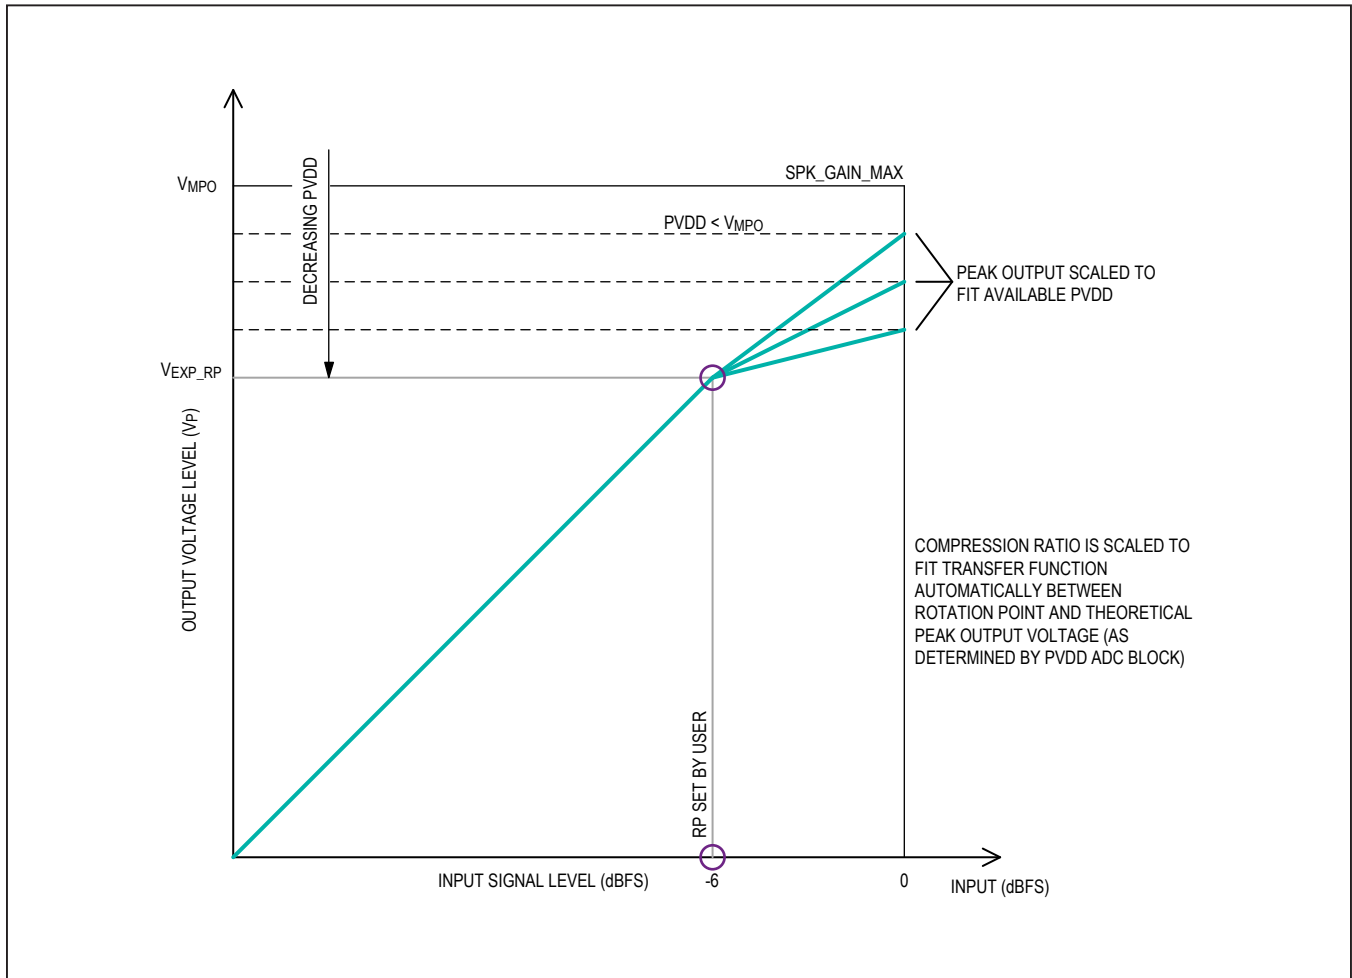
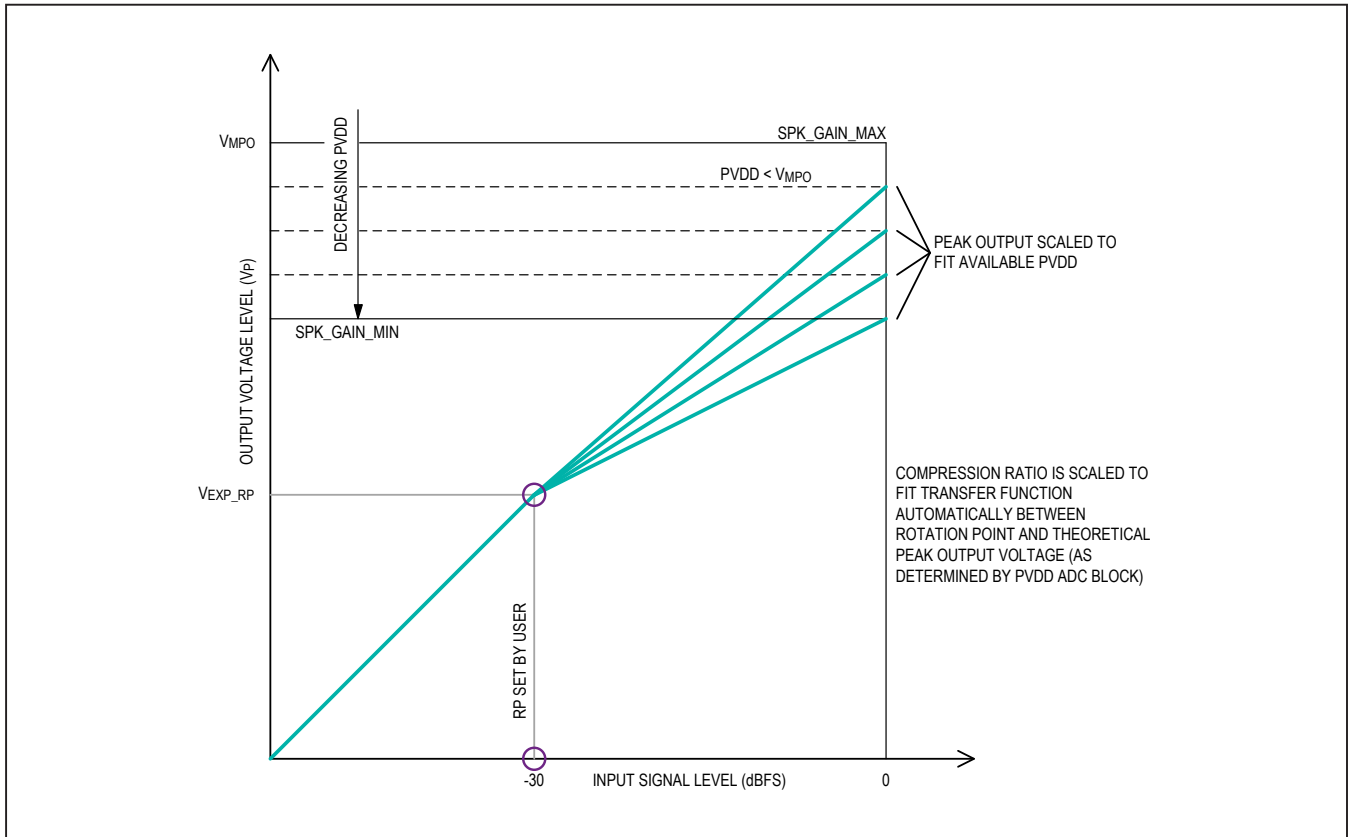
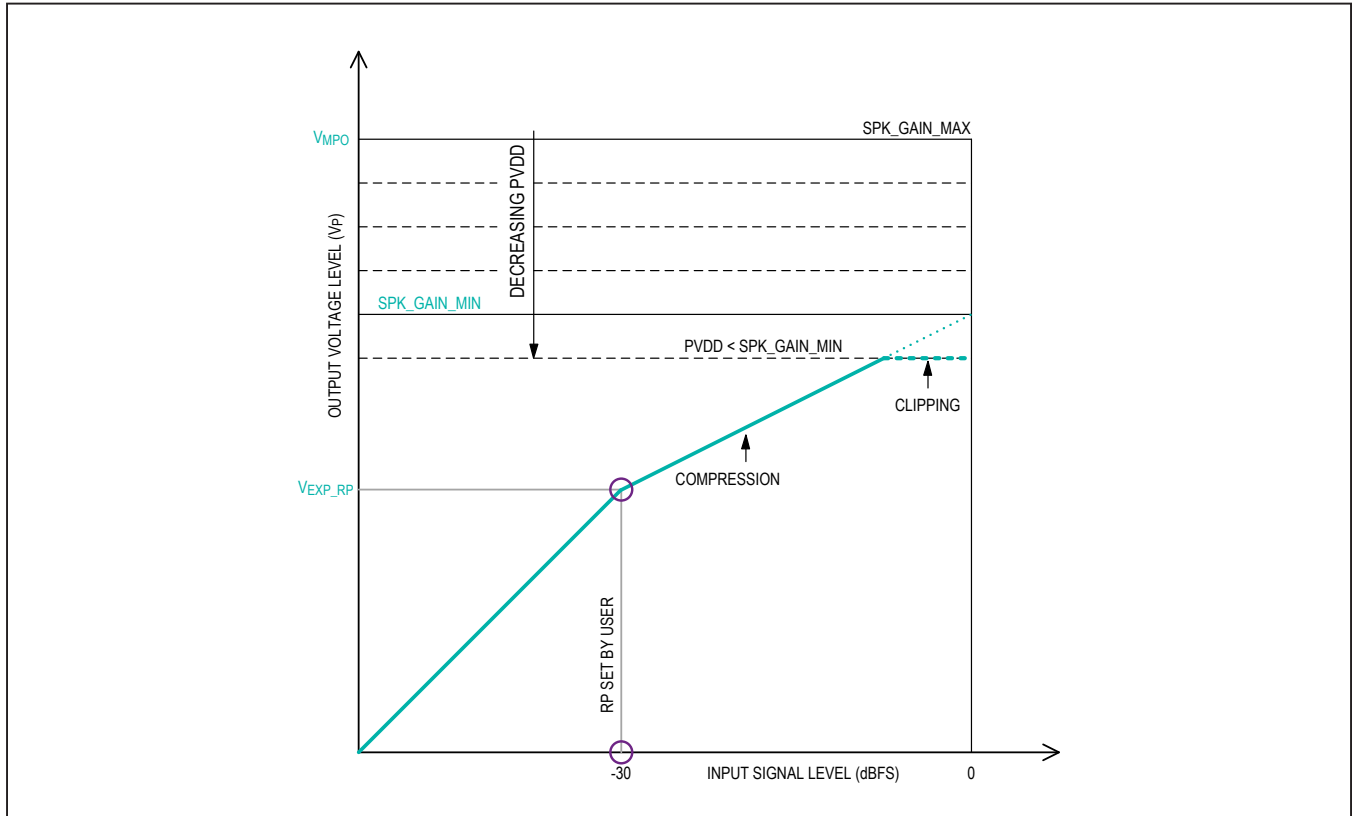
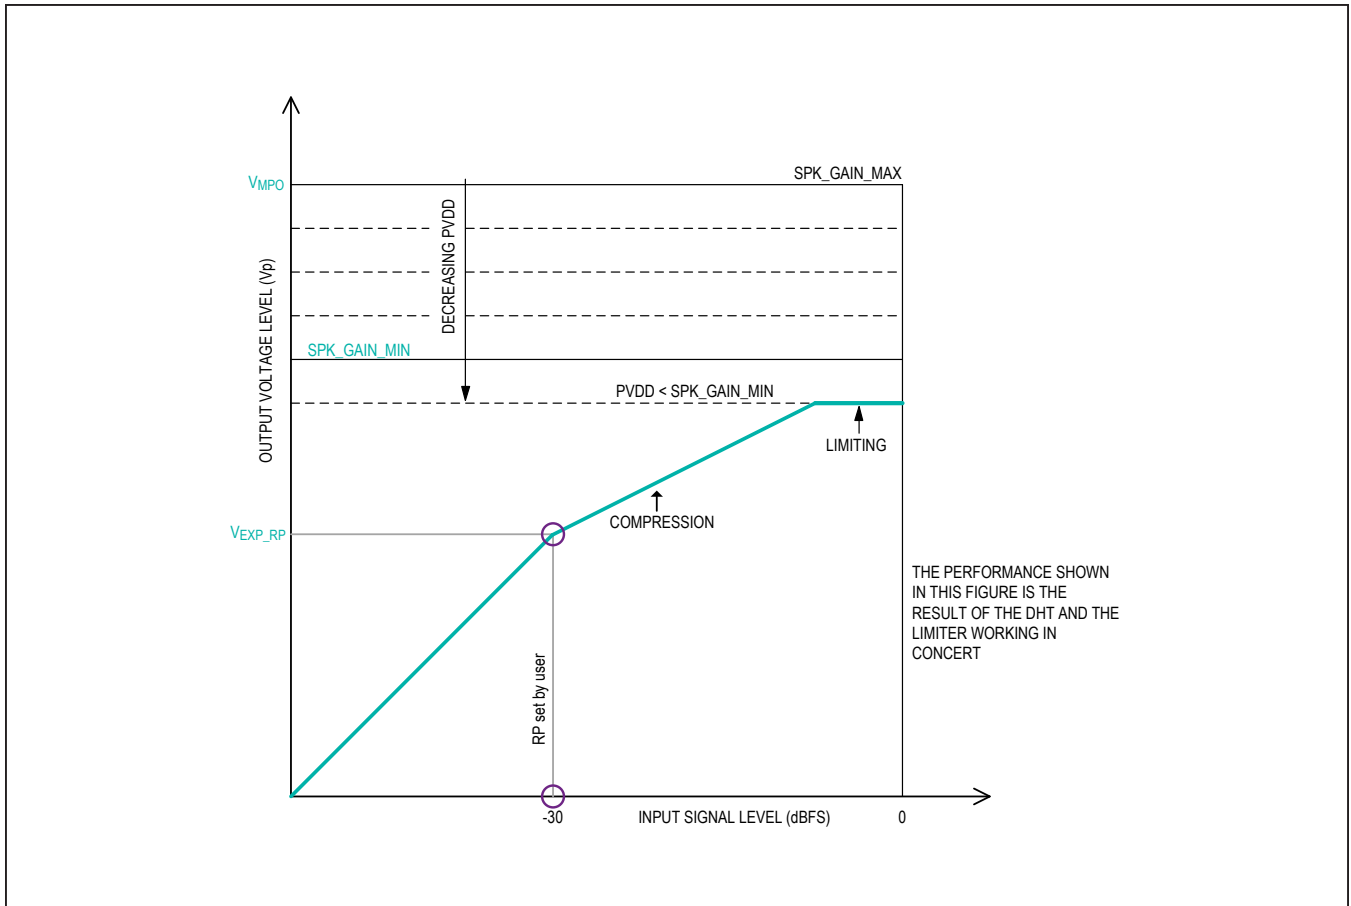

Figure 9. Example of Dynamic Headroom Tracking in Mode 2 Operation with a High RP
Figure 10. Example of Dynamic Headroom Tracking in Mode 2 Operation with a Low RP
Figure 12. Example of Dynamic Headroom Tracking in Mode 3b Operation
Figure 13. Example of Dynamic Headroom Tracking in Mode 3b with Limiter
**MODE 2:**  $V_{PVDD}$  is less than  $V_{MPO}$ , and greater than the output voltage as set by the Rotation Point register setting ( $V_{EXP\_RP}$ ). For example, if the RP is set for -6dBFS, then the peak voltage on the output ( $V_{EXP\_RP}$ ) would be  $V_{MPO}/2$ . If this is the case, the transfer function for signals below the RP is reproduced exactly as in Mode 1. Any signals between RP and 0dBFS are now subject to an audio compression function, acting in the DSP block of the MAX98372. This acts with appropriate attenuation for peaks over the RP in magnitude with programmable attack and release times (see the *DHT Ballistics* section). Figure 9 and Figure 10 show the effect on the transfer function.
Figure 10 and Figure 12 show an additional parameter, SPK\_GAIN\_MIN, on the transfer function plots. This parameter is useful when a lower RP is selected. SPK\_GAIN\_MIN provides a means to create a maximum compression ratio. When the input signal reaches the
maximum output voltage that PVDD can provide, the output signal starts to clip (Figure 12). This behavior may not be desirable, but the clipping can be eliminated by enabling the limiter. See Figure 13.
The transfer function shown in Figure 13 is typically preferable to the transfer function shown in Figure 12. When DHT and the limiter are used together, it allows for creation of a second inflection point on the transfer